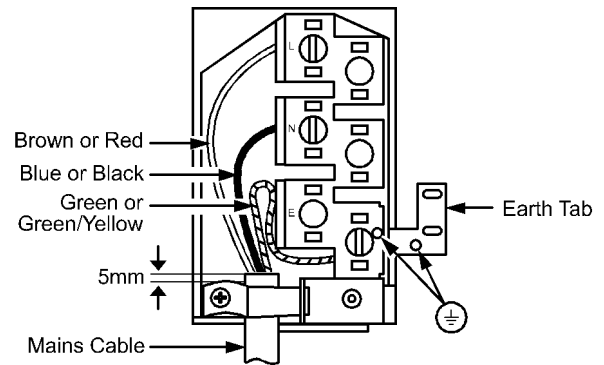

Fig. 1
- Do not remove the screws from the earth tab extending from the oven mains terminal block (Fig.1).